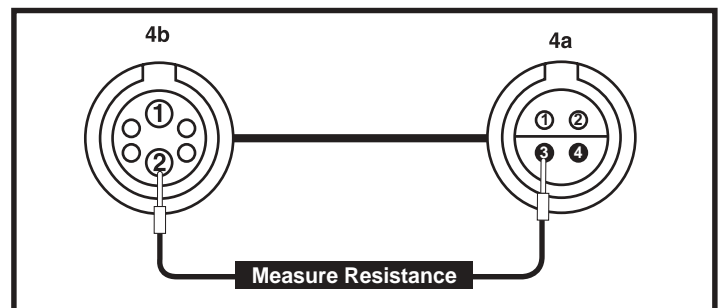
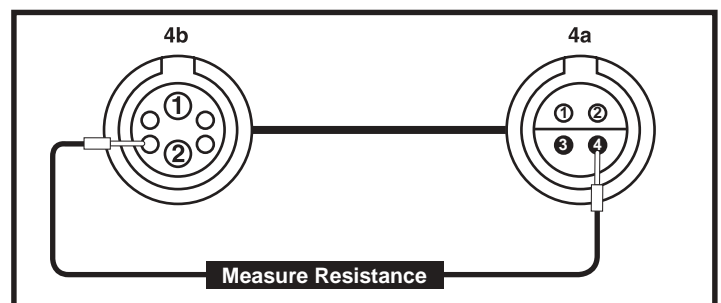

Figure 15. Connectors 4a and 4b
Figure 16. Connectors 4a and 4b
5. Measure resistance from pin 3 on connector 4a to pin 2 on connector 4b. **See figure 15.**
- *If your multimeter indicates an open, then replace the power take-off/inhibit harness (4) and retest the system.*
6. Measure resistance from pin 4 on connector 4a to pin 6 on connector 4b. **See figure 16.**
- *If your multimeter indicates less than 1 ohm, then replace the power module (2) and retest the system.*